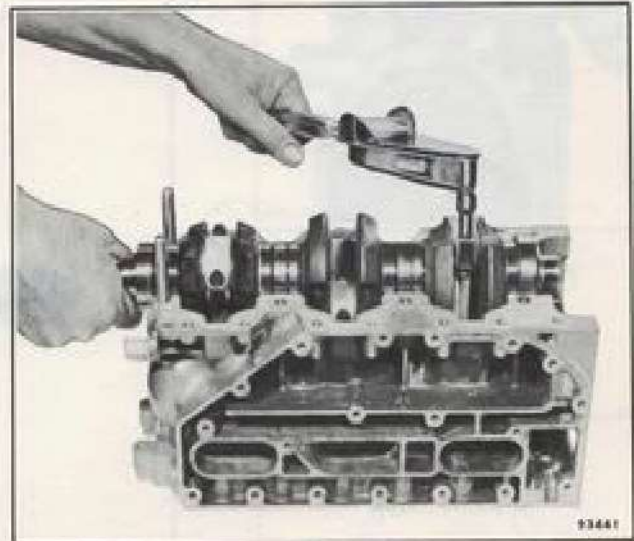

Figure 5-42. Torquing Connecting Rod Screws
g. Tighten connecting rod screws to torque specified in Section 2, using a torque wrench. See Figure 5-42. Rods and bearings should float on crankpins.